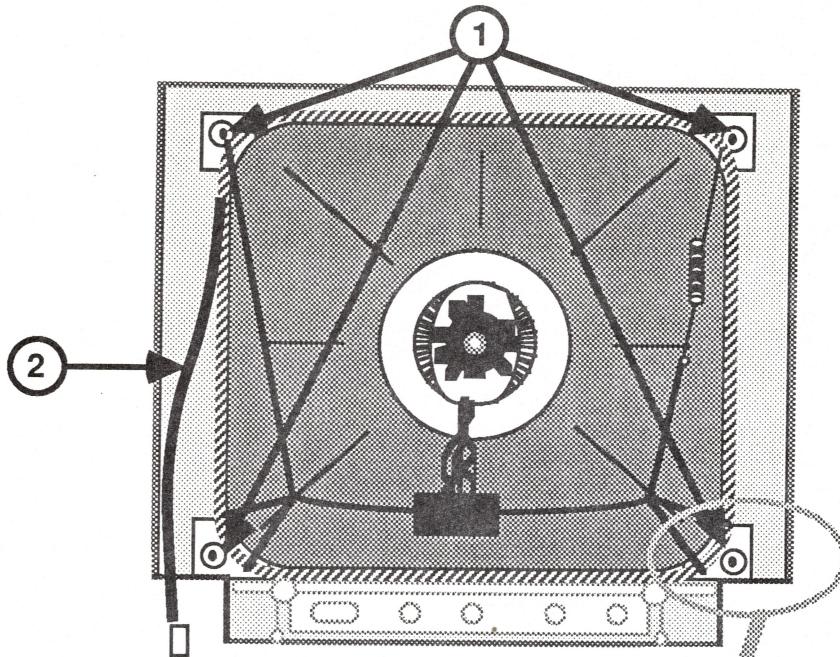
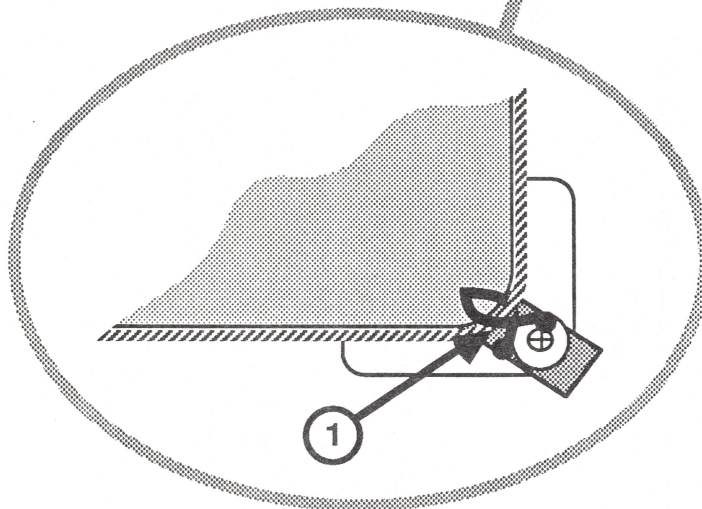

FIGURE 31
FIGURE 32
Carefully place the entire CRT/degaussing coil assembly into the front bezel, making sure the degaussing coil ground strap (Figure 31, #2) is on the left side as you face the back of the monitor.
4. Tighten the four CRT mounting screws (Figure 31, #1) through the mounting brackets at the corners of the CRT. On the IIc, make sure each screw is also positioned through the plastic holding tabs (Figure 32, #1).
Both fuses are mounted to the component side of the main logic PCB (Figure 32).